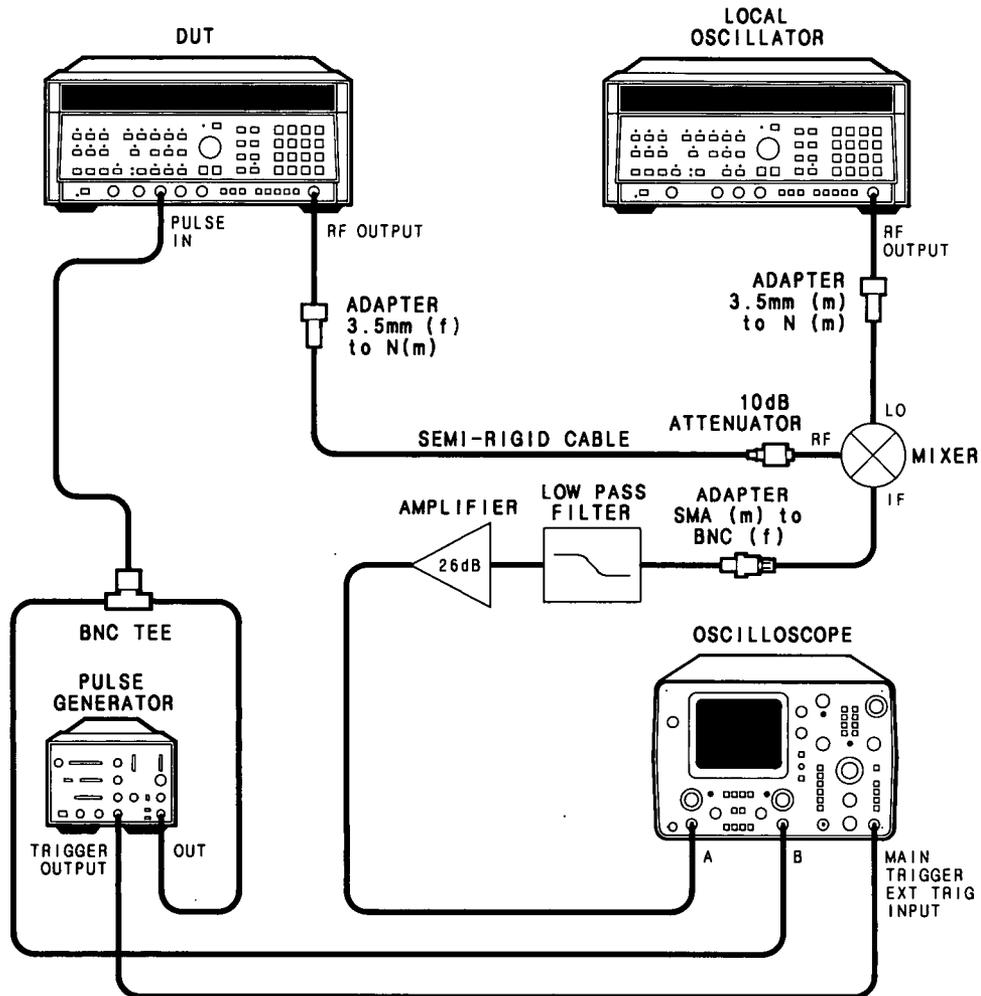

Figure 4-15. Pulse Modulation Accuracy Test
1. Connect equipment as shown in Figure 4-15. Connect the mixer directly to the LO's RF output connector to obtain the maximum mixer LO input level. Connect the BNC tee directly to the DUT's PULSE IN connector. Allow a one hour warm up.